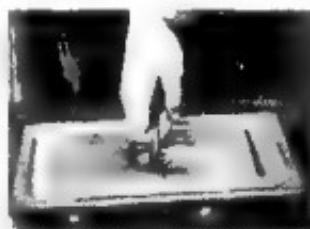

Fig. 55 Removing Battery Inspection Plate
1. Turn the right rear corner of floor mat up out of the way, turn the battery inspection plate handle counterclockwise (fig. 55) and remove inspection plate.